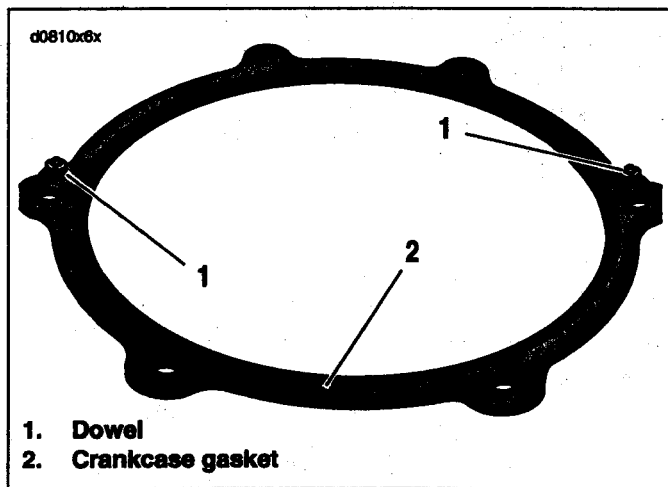

Figure 15. Crankcase Gasket
See Figure 15. In next step, be sure dowels (1) in new crankcase gasket (2) (Part No. 34934-06 from recall parts kit) engage holes in crankcase.